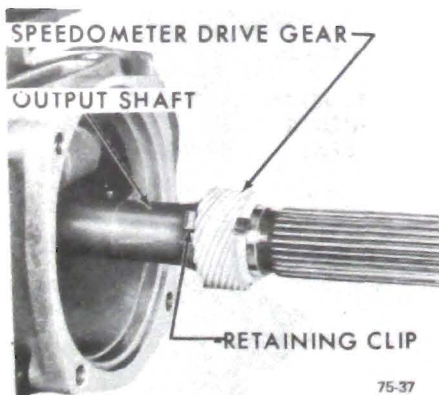

Figure 75-63
1. Depress speedometer drive gear retaining clip, then slide speedometer drive gear off output shaft. See Figure 75-63.